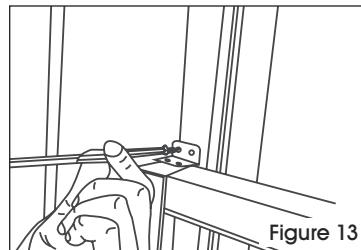

Figure 13
6. To secure lower sill in place, attach sash lock with 1/2" screw as shown. (See Figure 13)